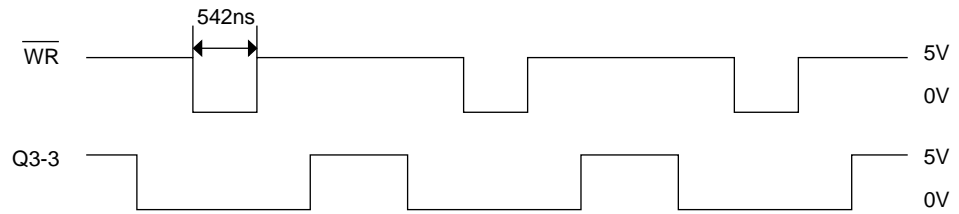

Figure C-3-5
• Yes Are, \overline{WR} , and BUS signals of Q3 pin 3 as specified in Figure C-3-5?
• Yes Is 4 pin of Q6 identical to \overline{WR} signal in Figure C-3-5?